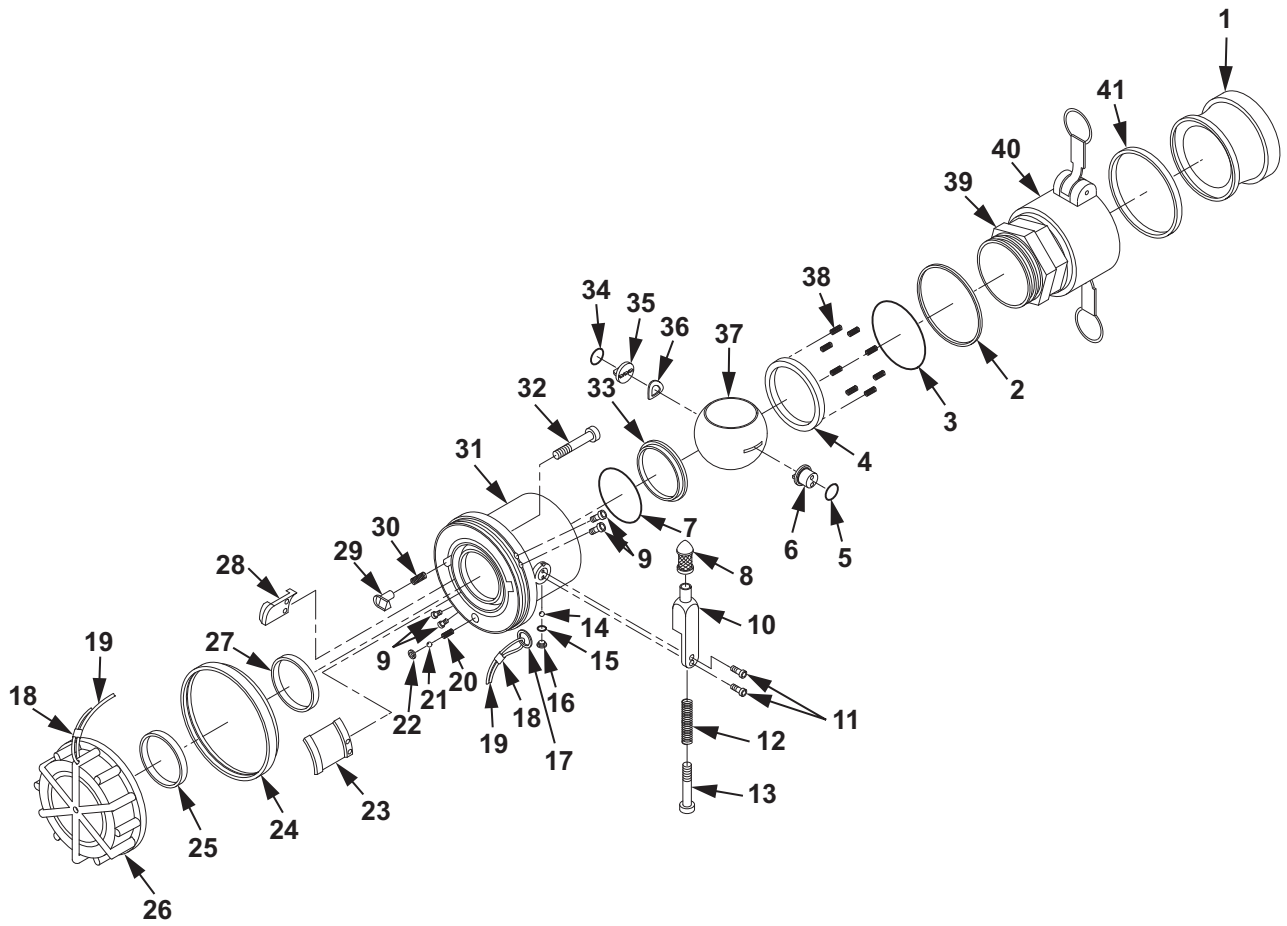

Figure 4. Valved Dry-Break Coupling Assembly.
35. Test function of lockout pin (Figure 4, Item 29) if removed from coupling (Figure 4, Item 31).
- With ball valve (Figure 4, Item 37) in the open position, from the interface end, look through hole in lockout pin (Figure 4, Item 29) and observe stop pin (Figure 4, Item 35). If stop pin (Figure 4, Item 35) half shaft can be seen, then stop pin (Figure 4, Item 35) has been installed correctly.
- With ball valve (Figure 4, Item 37) in the open position, from the interface end, look through hole in lockout pin (Figure 4, Item 29) and observe stop pin (Figure 4, Item 35). If stop pin (Figure 4, Item 35) half shaft cannot be seen, then stop pin (Figure 4, Item 35) has been installed incorrectly.
- If stop pin (Figure 4, Item 35) was installed incorrectly, remove ball valve (Figure 4, Item 37) and reposition stop pin (Figure 4, Item 35).
During adjustment of lockout pin (Figure 4, Item 29), ensure that ball valve (Figure 4, Item 37) is securely seated at all times.
36. Adjust lockout pin (Figure 4, Item 29).
- Pull knob (Figure 4, Item 8) on control arm (Figure 4, Item 10) back and slowly rotate towards the closed position. If control arm (Figure 4, Item 10) cannot be rotated or is too tight, then lockout pin (Figure 4, Item 29) requires adjustment.
- Adjust lockout pin (Figure 4, Item 29) by loosening screw (Figure 4, Item 32) one-quarter turn at a time until control arm (Figure 4, Item 10) can be rotated freely.
37. Lightly lubricate new O-ring (Figure 4, Item 2) with petrolatum and install new O-ring (Figure 4, Item 2) in second groove on outside of quick disconnect coupling half adapter (Figure 4, Item 39).
38. Lightly lubricate new O-ring (Figure 4, Item 3) with petrolatum and install new O-ring (Figure 4, Item 3) in inside groove of quick disconnect coupling half adapter (Figure 4, Item 39).
39. Position eight springs (Figure 4, Item 38) in the eight holes on the inside of the quick disconnect coupling half adapter (Figure 4, Item 39).
40. Install new seal (Figure 4, Item 4) in inside groove of quick disconnect coupling half adapter (Figure 4, Item 39).
41. Position quick disconnect coupling half adapter (Figure 4, Item 39) into coupling (Figure 4, Item 31) and press in to line up groove of quick disconnect coupling half adapter (Figure 4, Item 39) with groove of coupling (Figure 4, Item 31).
Ensure all 41 ball bearings (Figure 4, Item 14) are accounted for before assembly.
42. Hold coupling (Figure 4, Item 31) over cleaning cloth with screw hole up and insert ball bearings (Figure 4, Item 14) into hole.
43. Lightly lubricate new O-ring (Figure 4, Item 15) with petrolatum and install new O-ring on screw (Figure 4, Item 15).
44. Install screw (Figure 4, Item 15) into coupling (Figure 4, Item 31).
45. Using torque wrench and screwdriver bit, torque screw (Figure 4, Item 15) to 25 in. lb (2.8 N•m).